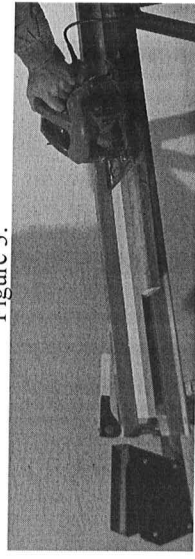

Figure 5.
- Using you circular saw cut along the plank removing the excess waste wood. This is shown in figure 5. This leaves 1/8" to be trim with the router.